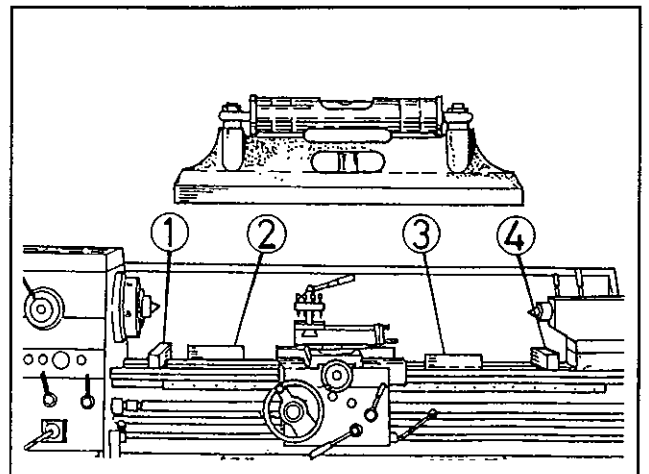

Fig.2
**Free-standing:** Position lathe on foundation and adjust each of the six mounting feet to take equal share of the load. Then using a machinists precision level on the bedways (as in Fig 2) adjust the feet to level up machine. Periodically at least every six(6) months check bed level to ensure continued lathe accuracy.
**Fixed installation:** Position lathe over six bolts (5/8 in. or 16mm. diam.) set into the foundation to correspond with holes in the mounting feet; dimensions are shown on foundation plan. Accurately level the machine, as in Fig. 2 then tighten hold-down bolts. Re-check bed level.